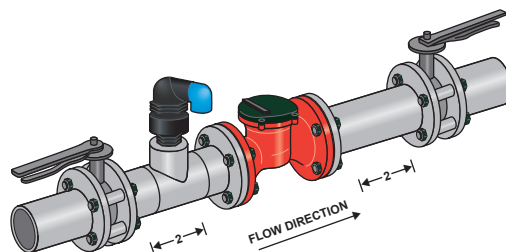

FIGURE 2
- Two (2) diameters of straight pipe are required when installing the meter upstream or downstream of a valve, tee connection or other source of significant turbulence. (See Figures 2 and 3)